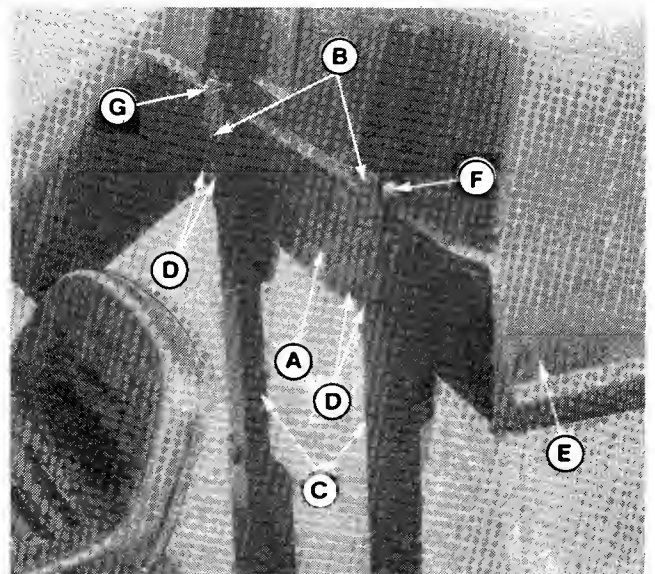

Figure 9 (Shown With Cover Installed)
10. Attach the support plate (A, figure 9) and hinges (B) to the two upper braces (C). Insert four 5/16-18 x 7/8 capscrews from rear, then install 3/8 (ID) x 7/8 (OD) washers, lockwashers and nuts (D) (unless already assembled).
14. Place cover (E, figure 9) onto the support plate and align the hinges. Insert two pins (F) and install clips (B). The front edge of the cover must seal against the support plate. Loosen nuts (D) to re-position if necessary, then tighten.